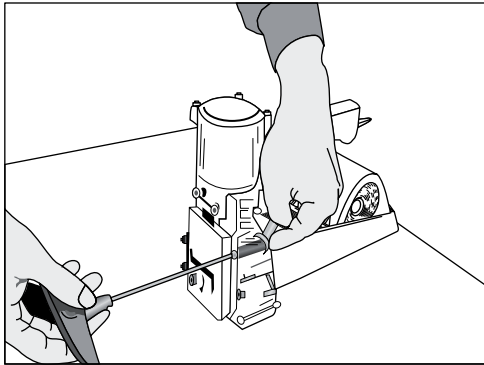

Figure 13
1. Loosen screws and nut with an 8 mm wrench and 4 mm Allen wrench. (See Figure 13)